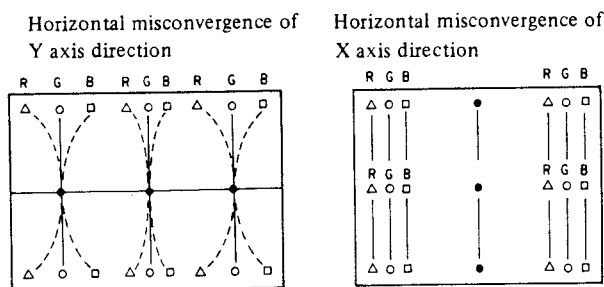

Figure 18
This is a simple explanation of the convergence system in Super fine Trinitron picture tube used in this model. The Deflection Yoke (DY) used in this model generates an almost uniform magnetic field in order to get fine beam spot size. Accordingly basically misconvergence of horizontal direction as shown in Figure 18 is generated on the picture screen.